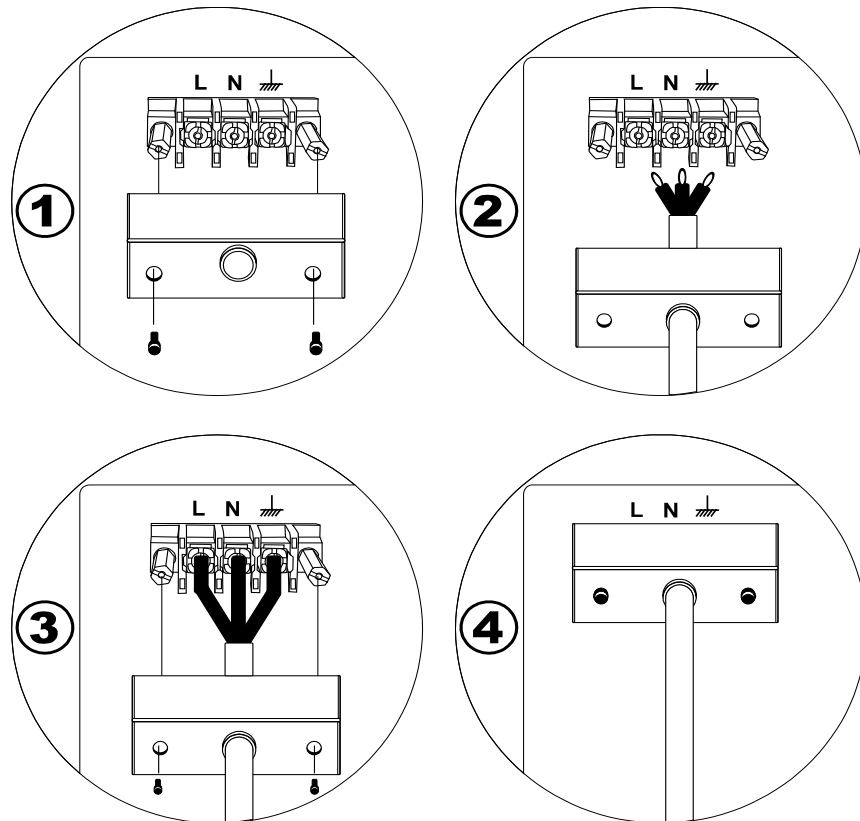
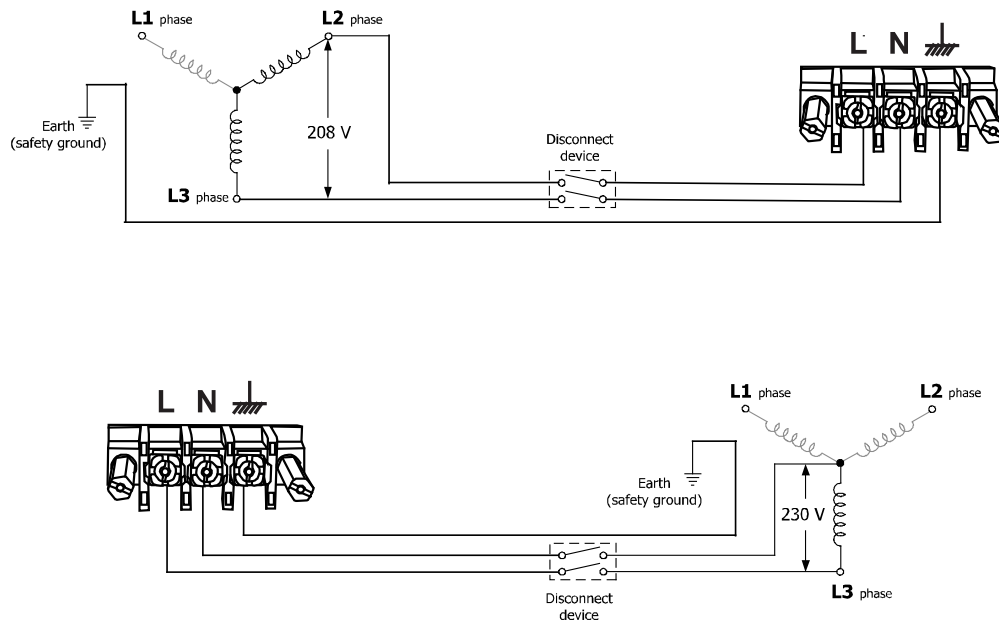

Figure 16 - AC Input Connection
Figure 17 - Single Phase Mains Connection
Please follow the steps below in Figure 16 to create a reliable and proper AC input connection, and refer to Figure 17 - Single Phase Mains Connection reference setup.
**Step 3:** Place the three wire ends of the power cord to the correct terminals. Refer to Figure 17 below for reference. Securely tighten each wire to the terminals with the screwdriver.